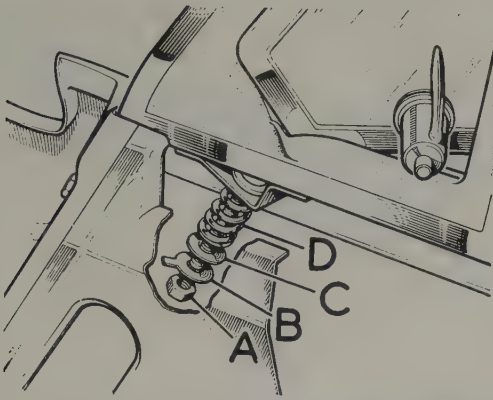

Fig. 12.25. Front door quarter light (early models)
- 3 Refer to Fig. 12.25 and bend back the tab washer lock tab "B" undo the nut "A" and lift away the tab washer "B" plain washer "C", and spring "D" securing the front quarter light to the door. These are accessible through the door aperture.